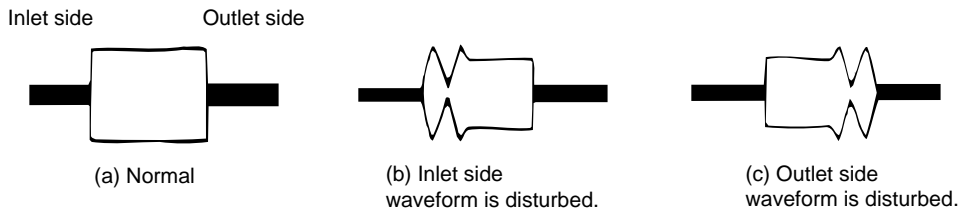

Figure 2
- (3) Playback the alignment tape (VR2DB0PS).
- (4) Ascertain that each guide is free from remarkable curl.
- (5) Ascertain that the RF waveform of inlet and outlet sides is flat on the oscilloscope (Figure 2, (a)). Unless the waveform is flat, (Figure 2, (b), (c)), make an adjustment as follows.